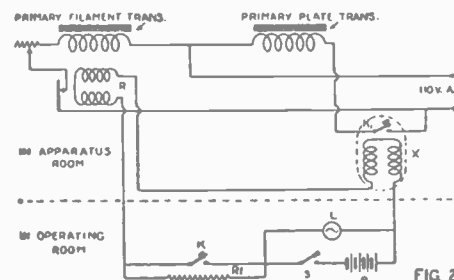
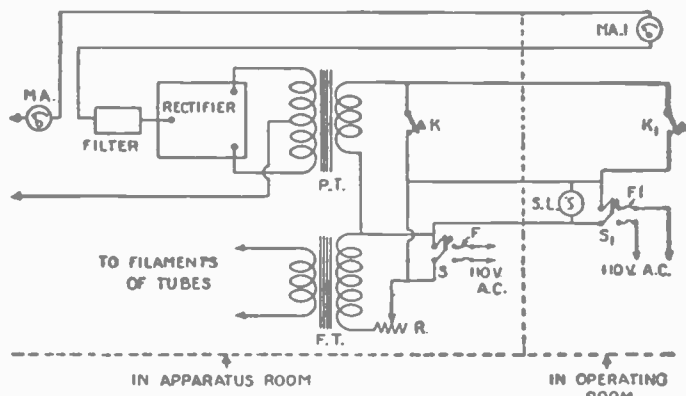

FIG 2
FIG. 1
The inductance, a coil of 75 turns of No. 20 D.S.C. magnet wire, wound, duo-lateral-wise, upon a fiber hoop, 1 inch wide and 8 inches in diameter, is mounted atop the head-band by means of the pillar (A) and the brackets (C), Fig. 2. The coil's capacity is .5 mh. (approximately). (A) is a hard rubber bushing through which a 6/32 machine screw passes, thus clamping the coil to the brass strip (B), which is in turn riveted to the head-band. The two brackets (C,C) are bent up from buss bar wire and are also riveted to the coil and the head-band.
The first thing to figure out was how the two transformers could be controlled, as they must be turned on separately. It was found that the Allen-Bradley primary rheostat (R) in Fig. 1 could, after being once set in the required position, be left there indefinitely. Of course, line voltage fluctuates somewhat and therefore it is a wise precaution when using a five-watt tube to set the filament voltage at 7 or with a 50-watt tube
Since the milliammeter is the trouble-indicator of a transmitter, some provision should be made for its location at the operating end. If anything whatsoever goes wrong with your transmitter, the plate amperage will fluctuate, and by noticing the reading of your milliammeter occasionally, you can readily see whether or not everything is going on as it should at the other end. Therefore, two milliammeters were installed at 3MO. They are indicated by (MA) and (MA1) in Fig. 1. Two leads are run from the apparatus to the control and the two meters are connected in series as shown. (The meters are, of course, not in the oscillating circuit.)
Now let us refer to the unique two-wire system used by IBM. The circuit diagram is shown in Fig. 2. If you wish to use a milliammeter at the control end, and this addition is by all means advisable, connect it in the same way as shown in Fig. 1. Inasmuch as this circuit is not part of the real remote control circuit, no changes will have to be made in Fig. 2 for the installation of an extra meter.
good transmitting aerial cannot be erected. Possibly a few hundred feet away there may be space where you can put up a good antenna. This is what happened in the case of IBM, whose remote control system is illustrated in Figs. 2 and 3. He built his antenna more than one thousand feet away from his home, erected a shack directly under it for housing the apparatus and ran only two leads to his house and to the operating room. In this way, after once tuning the transmitter, he could enjoy all the comforts of home combined with the delights of radio.
At 3MO the actual transmitting apparatus was installed on the third floor of the house. It was put in in the winter time, but as the summer months came around, it was found that the room was too hot for comfortable operation. Remote control was immediately figured upon, and the system shown in Fig. 1 was worked out and installed. Perfect satisfaction has been obtained and the results are all that can be desired. In the writer's opinion, the system shown in Fig. 1 is superior in many ways to IBM's, although the latter holds some advantages of its own. In the first place there are no comparatively high voltage leads running over long distances as in the system used by IBM. This is a great advantage where the operating room is more than 30 or 40 feet away from the apparatus room. However, in the case of 3MO, the operating room was directly under the apparatus room and the leads used were only about 25 feet long.
In Fig. 1, that part of the transmitting apparatus which is affected by the remote
You may wonder why two keys, two switches and two sources of power are shown in Fig. 1. The reason for this is that complete control was desired at each end of the system. This facilitates tuning and operation to a great degree and fully repays the operator for the additional trouble of installing the extra key and switch. Of course, it must be remembered that under any conditions, switch (S) must be opened when switch (S1) is to be closed and *vice versa*.
Showing the detailed construction of the electromagnetically - controlled key as denoted by "X" in Fig. 2. It can be worked at high speed.
When working in the operating room you will always have the light of the tube to remind you that the switch is closed. There is nothing like this at the remote control end, and so we will make provision for it. A signal lamp (SL) in Fig. 1 is connected across (S1). When this switch is closed, the lamp lights. It also lights if switch (S1) is opened and switch (S) is closed. Therefore, it serves to tell you whether or not you need to close switch (S1) before starting to operate. The two keys (K) and
In the parallel arrangement, however, there are several paths which the current may take in passing around the circuit. Thus, suppose we have the arrangement shown in Fig. 1 below. In flowing from the terminal of the source of *emf*, *a*, to the other terminal, *b*, the current can take two
FIG. 1 is seen to be a simple series circuit. There is only one path the current may take in passing around the complete circuit. This path is from one terminal of the battery, through the filament, through the resistance and back to the battery. Another series circuit is shown in Fig. 2 in which the plate coil, the plate to filament resist-